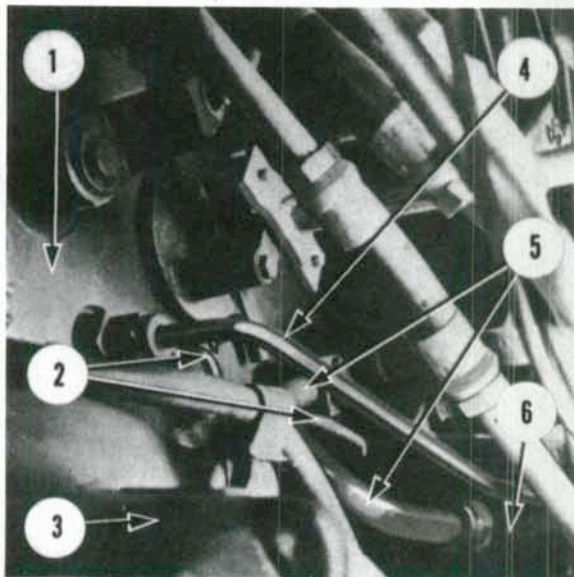

Fig. 277—Hydraulic lift cover linkage and tubes as viewed from rear of pump adapter plate.
Disconnect pilot pressure tube (4—Fig. 277) and system pressure tube (5). Disconnect flow control actuating rod and flow control override rod (2) and spring from pump adapter plate. Remove cap screws retaining inlet filter manifold (7—Fig. 278) to axle center housing. On TW-5, TW-15 and TW-25 models, disconnect differential lock pedal from differential lock valve actuating rod, and remove pto/differential lock pressure line. On TW-35 tractor, disconnect differential lock pressure line (8—Fig. 278) and remove pto pressure line (9). On all models, remove hydraulic return oil filter. Remove pump cover retaining cap screws and carefully pry adapter plate with pump from center housing. Unbolt and remove pump from adapter plate.